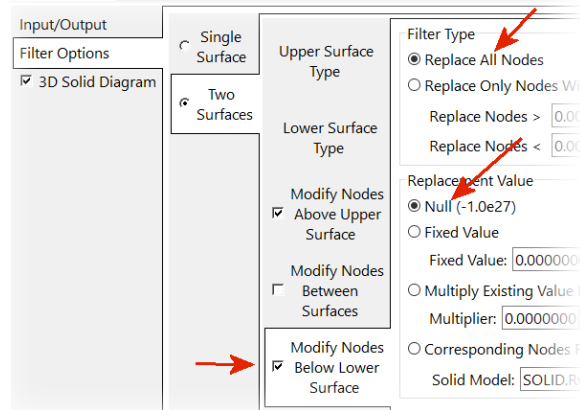

Figure 18
- In a similar fashion, configure the program (Figure 18) to *Replace All Nodes Below the Lower Surface* (i.e., the "Pit.RwGrd" surface) to a *Null* value.